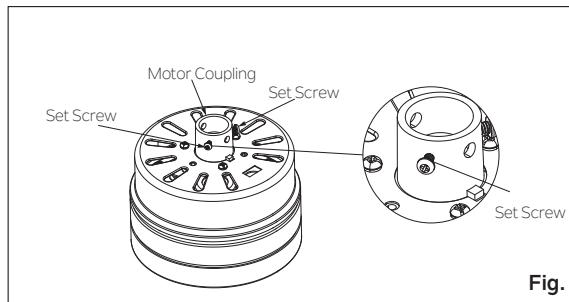

Fig. 7
Step 3. Loosen the two set screws (do not remove) on the motor coupling. (**Fig. 7**)